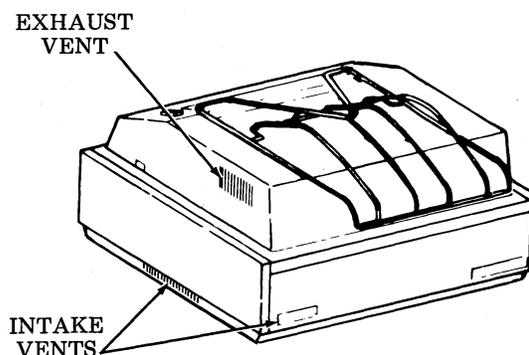

Fig. 1—Air Vents
2.03 Turn switch on and check cabinet fan operation. Air should exit from the exhaust vent on the right side of the cabinet (Fig. 1). Check that intake and exhaust vents are not blocked.